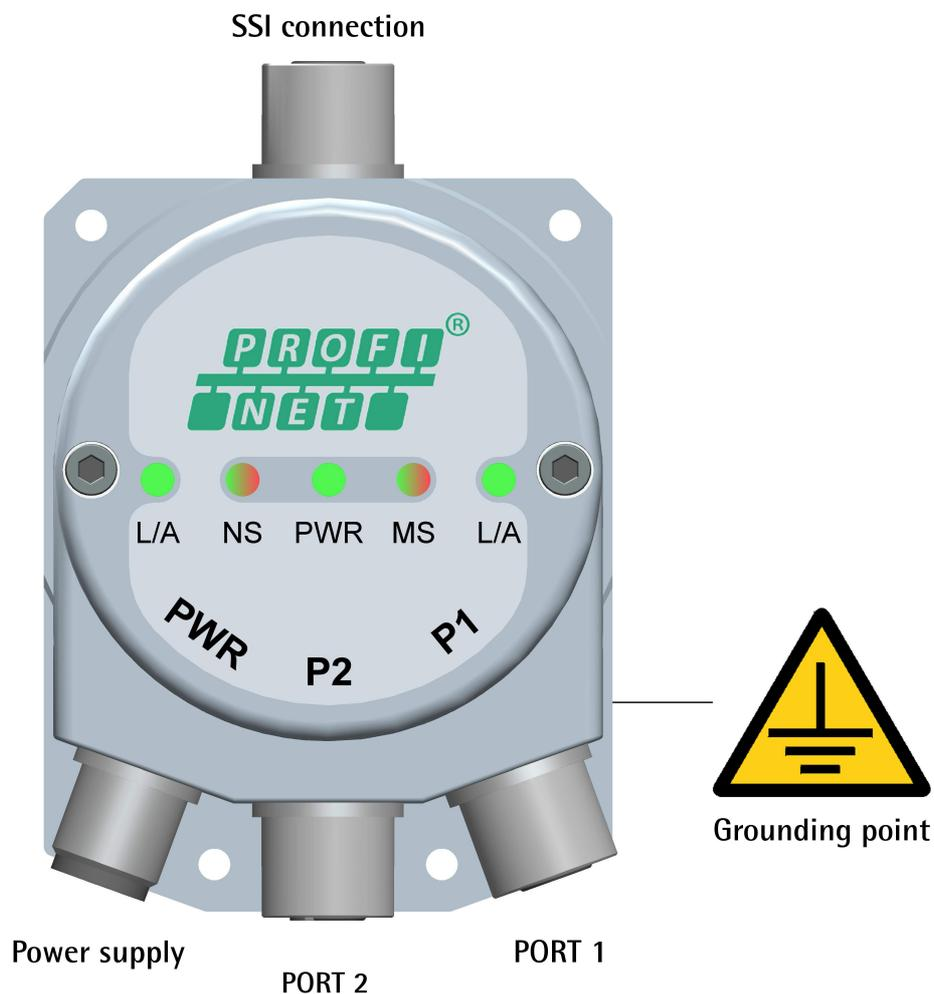

Figure 4 - Connectors and LEDs
4.1 SSI connector (Figure 4)
4.2 PWR Power supply connector (Figure 4)
4.3 P1 Port 1 and P2 Port 2 connectors (Figure 4)
4.7 Ground connection (Figure 4)
To minimize noise connect properly the shield and/or the connector housing and/or the frame to ground. Connect properly the cable shield to ground on user's side. Lika's EC- pre-assembled cables are fitted with shield connection to the connector ring nut in order to allow grounding through the body of the device. Lika's E- connectors have a plastic gland, thus grounding is not possible. If metal connectors are used, connect the cable shield properly as recommended by the manufacturer. Anyway make sure that ground is not affected by noise. It is recommended to provide the ground connection as close as possible to the device. We suggest using the ground point provided in the cap (see Figure 4, use 1 TCEI M3 x 6 cylindrical head screw with 2 tooth lock washers).
4.8 Diagnostic LEDs (Figure 4)
Five LEDs located in the cap of the encoder (see Figure 4) are meant to show visually the operating or fault status of the converter and the Profinet interface. The meaning of each LED is explained in the following tables.